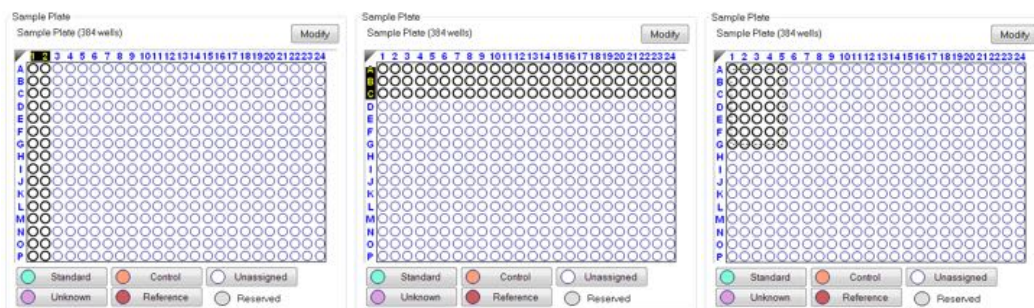

Figure 10-6: Selecting Wells in the Sample Plate Map
- Click a column header or select adjacent column headers by click-hold-drag (Figure 10-6 left). To select non-adjacent columns, hold the **Ctrl** key and click the column header.
- Click a row header or select adjacent row headers by click-hold-drag (Figure 10-6, center).
- Click a well or draw a box around a group of wells (Figure 10-6, right).